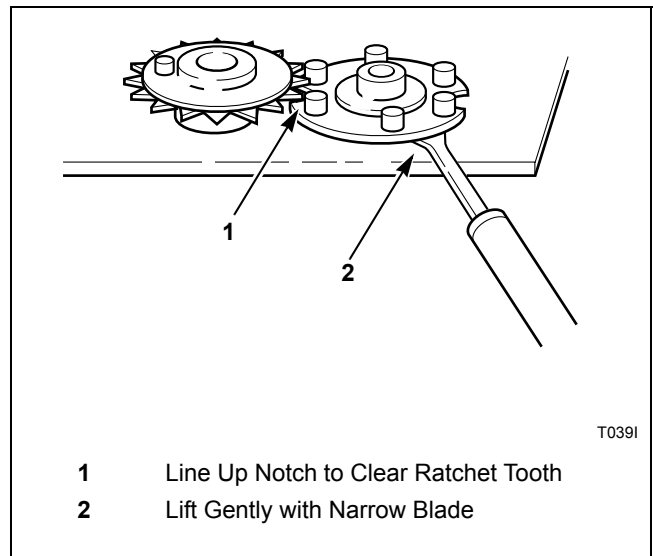

Figure 24
1. Rotate cam by hand until “V” notch lines up beneath the ratchet tooth. Refer to *Figure 24*.